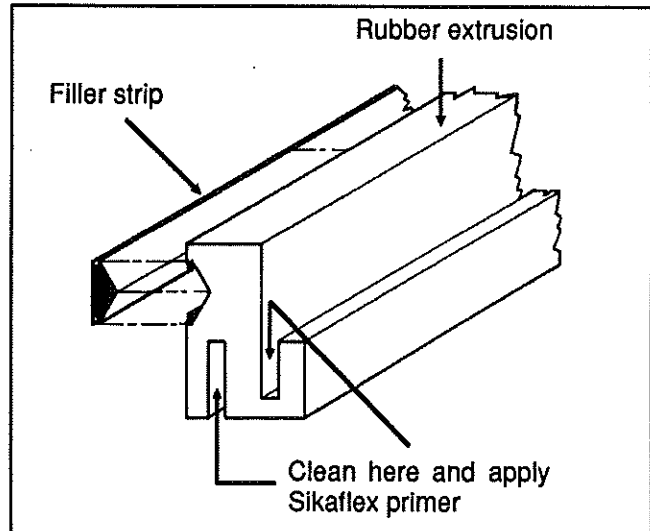

Fig. 35
3. Apply Sikaflex primer 449/203 (68-1091) with a paint brush or applicator in the channels around the rubber extrusion, and let dry 20 to 25 minutes while proceeding with the next steps. See figure 35.